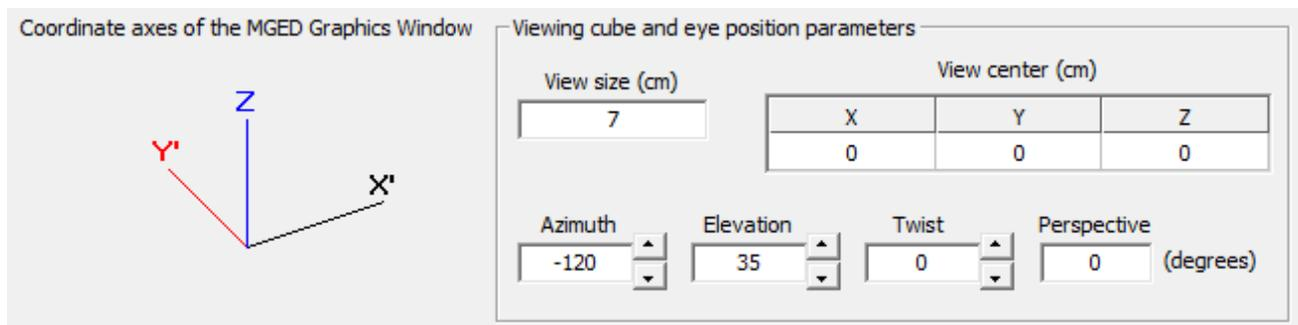
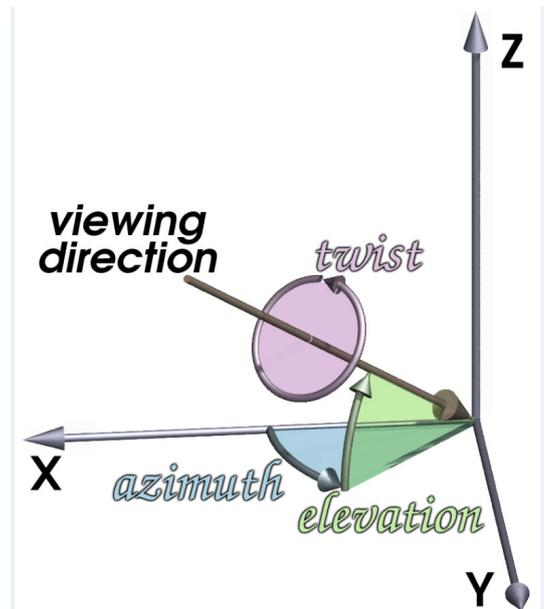

Fig. 6.1. Viewing cube and eye position parameters.
Fig. 6.2. The meaning of azimuth, elevation and twist angles (this diagram was found at <http://brlcad.org/gallery/diagrams/diagram>).
The term “viewing cube” is used in the MGED documentation when referring to the square MGED display. It represents the part of the 3D “world” seen by the user. The size of the viewing cube and the position of its center are controlled by the text box “View size” and the three-cell grid control “View center” (see Fig. 6.1). All sizes and coordinates are specified in centimeters. Since the edges of the viewing cube are aligned with the viewing direction (or “eye position”), three additional angles (azimuth, elevation and twist) must be provided for complete definition of the viewing cube in terms of the Cartesian coordinate system used for defining dimensions and positions of all 3D objects composing the simulation setup. The meaning of those three angles is illustrated in Fig. 6.2. They must be entered in three text boxes titled “Azimuth”, “Elevation” and “Twist” (see Fig. 6.1) in degrees (either manually, or in 5-degree increments using the nearby spin controls). The mentioned three angles determine the directions of the coordinate axes as seen in the MGED Graphics Window. Those directions are shown in the picture that is to the left of the group
“Viewing cube and eye position parameters” (see Fig. 6.1). If an axis title is shown with the prime symbol, this means that the positive half-axis is below the projection plane.
The text box “Perspective” (see Fig. 6.1) is used to set the perspective angle. Perspective makes the 3D image more realistic by making the receding parallel lines appear to be non-parallel. The possible values of the perspective angle are from 0 to 90°. The default value is 0 (no perspective). This value is recommended for easiest interpretation of complex images. **Note:** The “perspective” parameter is the only graphical parameter that is not applied when the RT script created by MCNScript is loaded using the MGED menu command “File / Load Script...”. It is applied only when the script is loaded using the MGED command “source”, or pasted into the MGED Command Window, or when the perspective angle is set manually using the MGED command “set perspective”.
- The command “**ae**” is used to get or set the values of the azimuth, elevation and twist angles (see Fig. 6.2 in Section 6.1). If this command is entered without any parameters, then the current values of the mentioned three angles will be displayed in the command window (in degrees). In order to set the angles, they must be listed after “ae” in the same order as mentioned above. For example, in order to set azimuth to 90° , elevation to 35° and twist to 20° , the following command should be entered: “ae 90 35 20”. In GUI mode, the current values of the azimuth, elevation and twist angles are always shown at the bottom of the MGED Command Window, after “az=”, “el=” and “tw=”, respectively (see Fig. 5.1).